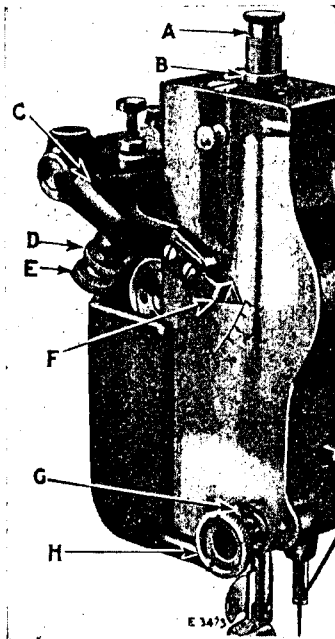

FIG. 12. ADJUSTMENTS FOR REGULATING THE WIDTH OF BIGHT AND THE POSITION OF THE NEEDLE VIBRATIONS
Fasten the knee lever bracket to the underside of the table so that when the knee lever is pressed the short hook which is mounted on the rock shaft will operate against the pivoted lever on the underside of the bed of the machine, thus controlling the vibrations of the needle. The stop on the rock shaft should be set so that it will limit the movement of the knee lever before the needle vibration indicator (F, Fig. 12, page 12) reaches the limit of its maximum throw. This will prevent excessive pressure by the operator on the needle vibration indicator mechanism.
The width of bight or extent of vibrations of the needle is regulated by the knurled adjusting screw (E, Fig. 12) which can
be adjusted to limit the vibrations of the needle any width up to $\frac{5}{32}$ inch. This screw acts as a stop for the indicator lever (C, Fig. 12) which has a pointer that registers with graduated marks on the face plate to indicate the width of the needle vibrations when the knee lever is pressed. To increase the width of bight, loosen the lock nut (D, Fig. 12) and turn the adjusting screw (E, Fig. 12) downward, meanwhile pressing the knee lever as far as it will go until the pointer (F) registers with the mark on the face plate corresponding to the width of bight desired. To decrease the width of bight, turn the adjusting screw (E) upward, at the same time pressing the knee lever as instructed above. When the desired width of bight has been obtained, firmly tighten the lock nut (D). When the pressure on the knee lever is released, the pointer (F, Fig. 12) will move to the zero mark on the face plate, and the needle will stop vibrating.
The position of the vibrations of the needle can be changed to bring the stitching closer to or farther from the centre of the spur by turning the knurled knob (H, Fig. 12). To bring the stitching closer to the centre of the spur, turn the knurled knob (H) over toward you. To move the stitching away from the centre of the spur, turn the knurled knob (H) over from you. The knurled knob is marked with numbered graduations which register with the pointer (G, Fig. 12) to indicate the position in which the needle vibrates.
The pressure on the material is regulated by the thumb screw (A, Fig. 12) at the top of the machine. To increase the pressure, loosen the lock nut (B, Fig. 12) and turn the thumb screw (A) over to the right. To decrease the pressure, turn the thumb screw over to the left. When the desired pressure on the material is obtained, tighten the lock nut (B).